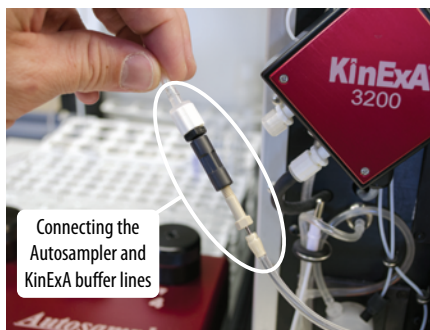
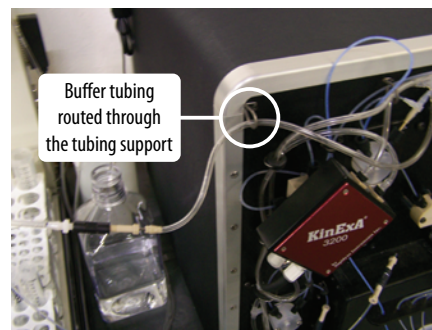

Figure 2.
Figure 3.
2. Connect the buffer lines together via the union (**Figure 2**) and route the excess line through the upper left tubing support on the KinExA (**Figure 3**).